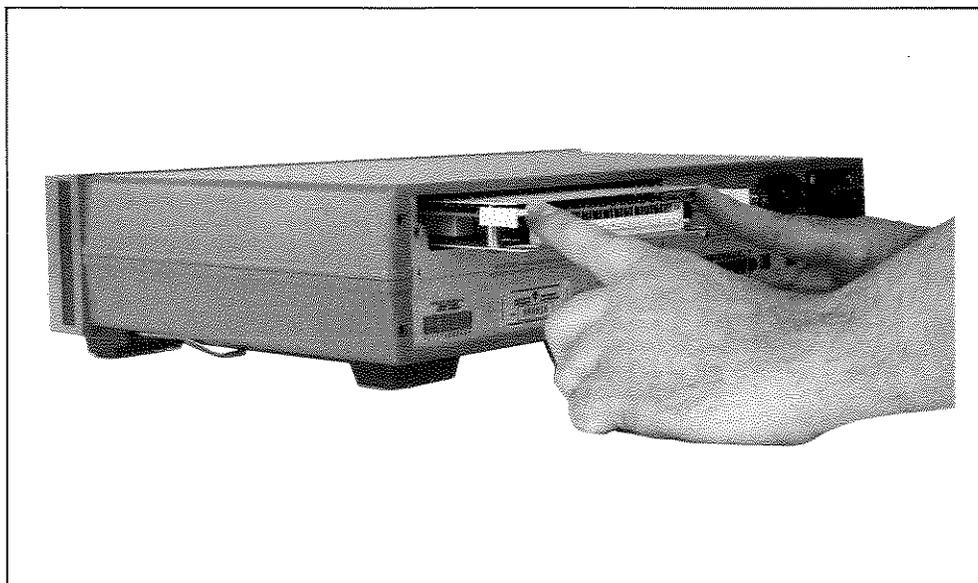

Figure 5-3. Inserting a Plug-In Card
7. Position the plug-in card so the ears are pointing outward and the component side of the printed circuit board is facing downward. Gently slide the card into the guides in the rear of the HP 3457 (see Figure 5-3). Firmly push the card into the HP 3457 until it stops.